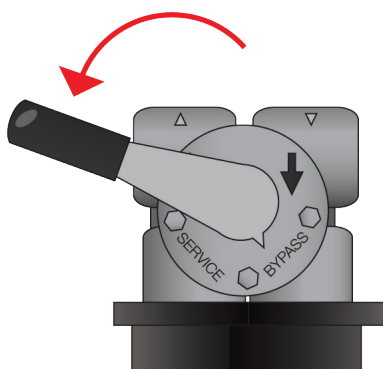

Figure 1 - Filter valve
3. The filter tank comes with a bypass valve included. Arrows on top of the bypass valve indicate the incoming and outgoing water flow [Page 4, Figure 1].
2. Place the tank in final install location. Make sure the tank is level. Rotate the valve lever into BYPASS position to allow air to escape **[See Page 4, Figure 1]**.
5. **BEFORE TURNING ON THE MAIN WATER LINE** - ensure the built-in bypass lever is still in the **BYPASS** position [See Page 4, Figure 1]. Plug the system into 110-volt; or, if using the 24-volt, use the supplied 24-volt transformer.